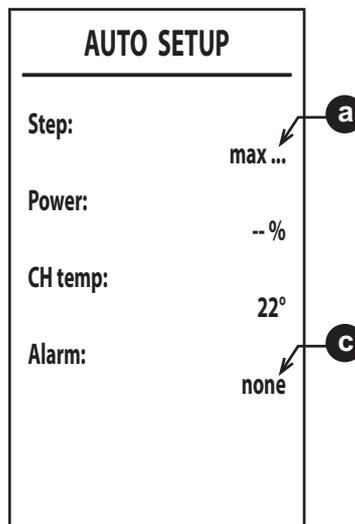

fig. 51
- If the ignition phase is unsuccessful, the message **[max_err]** appears at point **a** and an error code at point **c** (fig. 51). Possible causes of failed ignition are listed in **Note 2**. Exit Auto Setup with button , eliminate the fault and repeat the procedure from point 1.